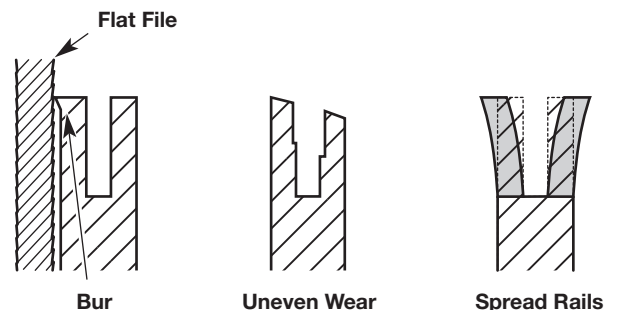

Fig. 30
3. Frequently check the guide bar for damage (Fig. 30). Feathering and burring of the guide bar rails (the ridges on either side of the bar groove) is a normal process of guide bar wear. Such faults should be smoothed with a file as soon as they occur (Fig. 30). A guide bar with the following faults should be replaced: